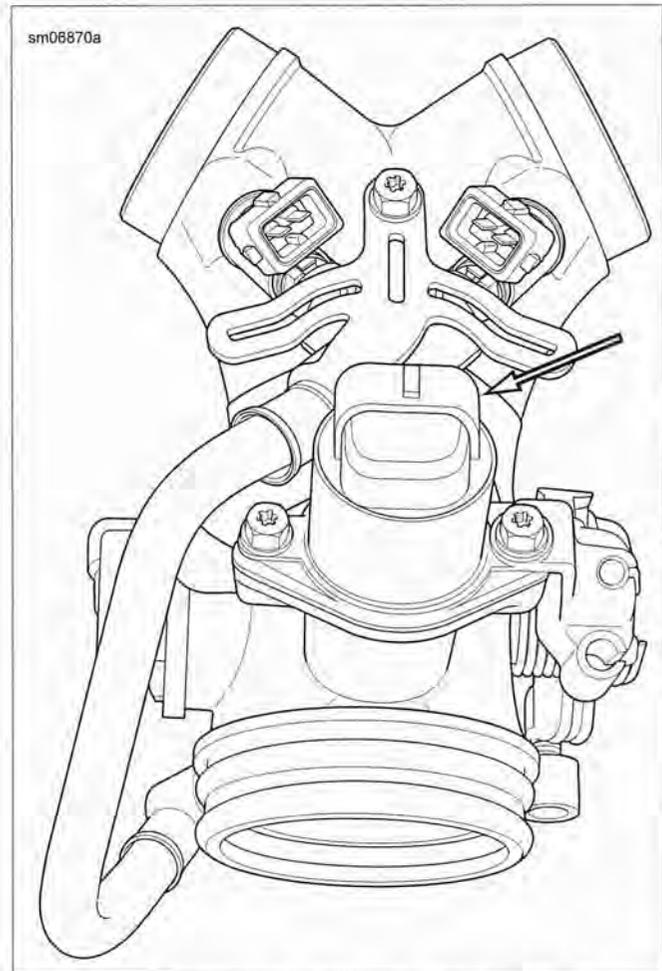

Figure 4-49. Idle Air Control (IAC): XR 1200X
**XR 1200X:** See Figure 4-49.